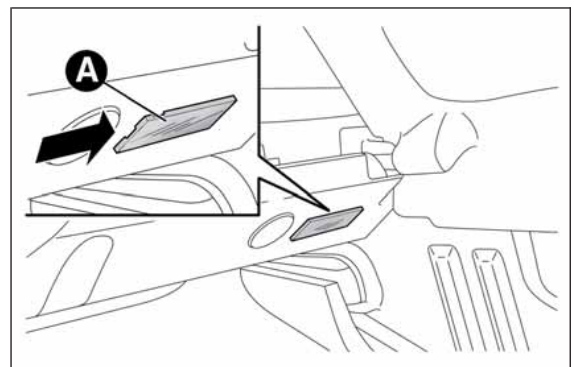

fig. 143
- open the luggage compartment and extract the roof light A fig. 143 working in the point shown by the arrow;
- refit the roof light A fig. 143 by inserting it in its correct position firstly on one side and then pressing on the other until it clicks into place.